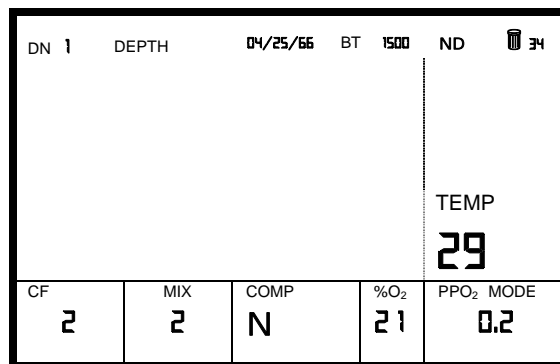

Fig.5 Surface Display
Finally, the Surface Mode display appears. This screen contains a variety of information useful in planning your dive. Information includes the dive number (DN), date, time, battery voltage, temperature (TEMP), computational formula (CF), mix number, gas composition (COMP), fraction of oxygen (in percent), and partial pressure of oxygen (PPO2) in atmospheres. (See Figure 5).